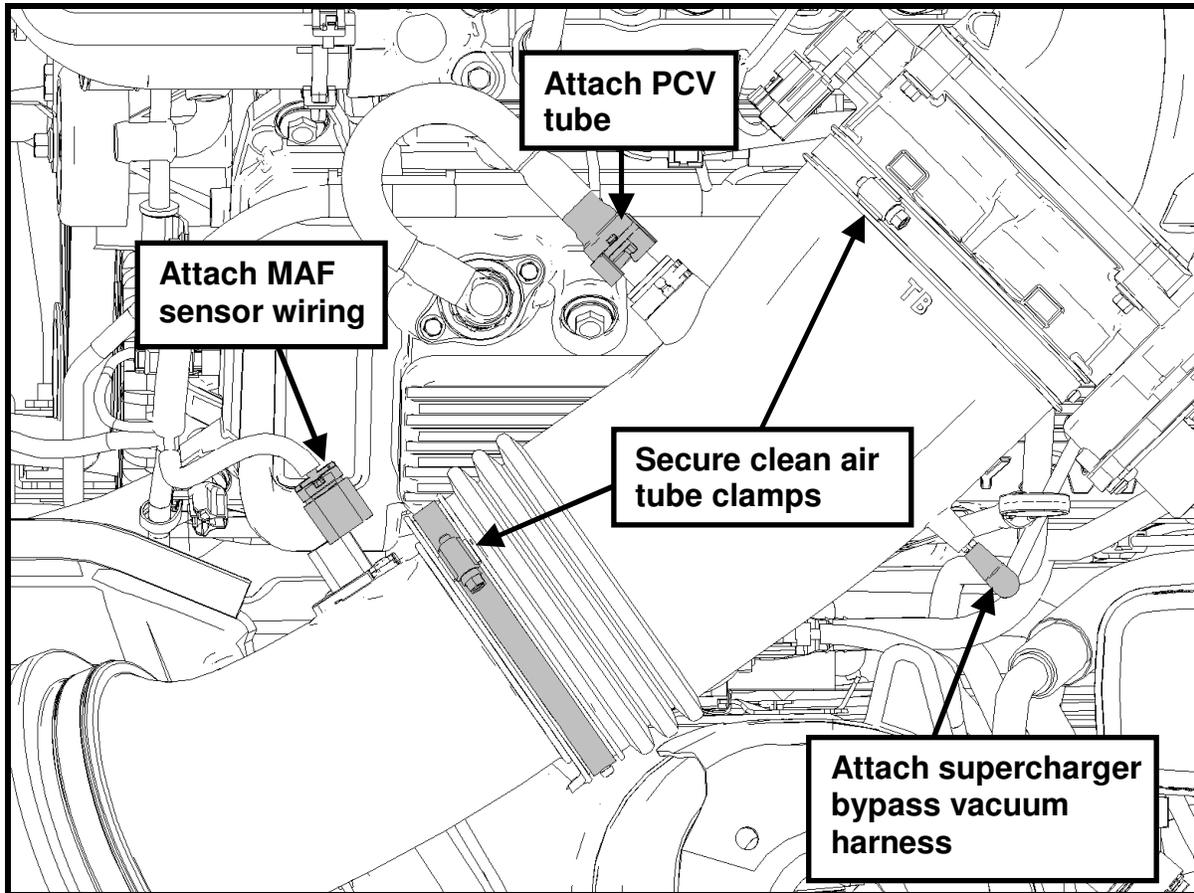

Fig. 36
- STEP 20:** Install the stock rubber clean air tube onto the new clean air tube/airbox assembly. Tighten both ends using worm drive clamps and torque to 3 Nm (26 lb in) (See Fig. 36).
- STEP 21:** Re-install the PCV line and vacuum harness onto the clean air tube. Re-install the MAF electrical connector onto the MAF sensor (See Fig. 36).